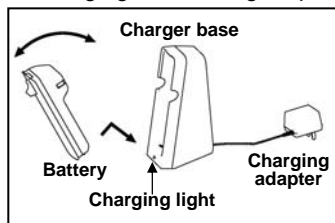

Fig. 1
6. The charge adapter plug is keyed and will fit into the charging base only one way. Align the channel on the adaptor plug with the tab on the bottom of the charging base. (Fig. 1)